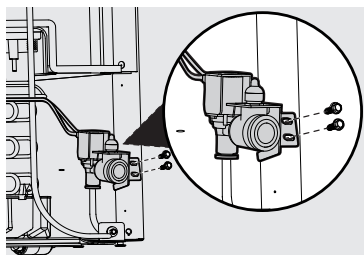

Figure 12
15. The water valve location has pre-made holes on the right rear of the unit. The water line should be oriented downward when the valve is installed. Install the water valve using a $\frac{1}{4}$ " hex head driver, install the 2 hex head screws. Tighten screws until they are snug and then tighten an additional $\frac{1}{4}$ turn. See Figure 12.